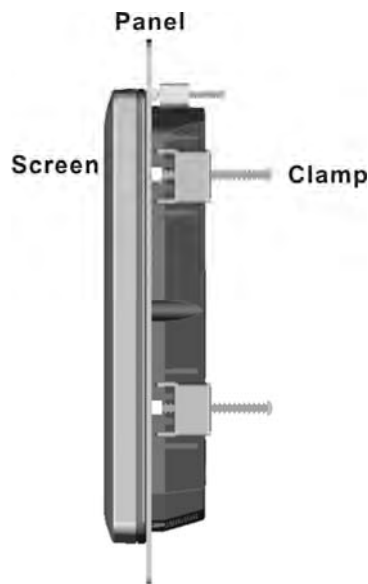

Figure 4-14: Tighten the Panel Mounting Clamp Screws
Step 5: Tighten the screws that pass through the panel mounting clamps until the plastic caps at the front of all the screws are firmly secured to the panel (**Figure 4-14**).